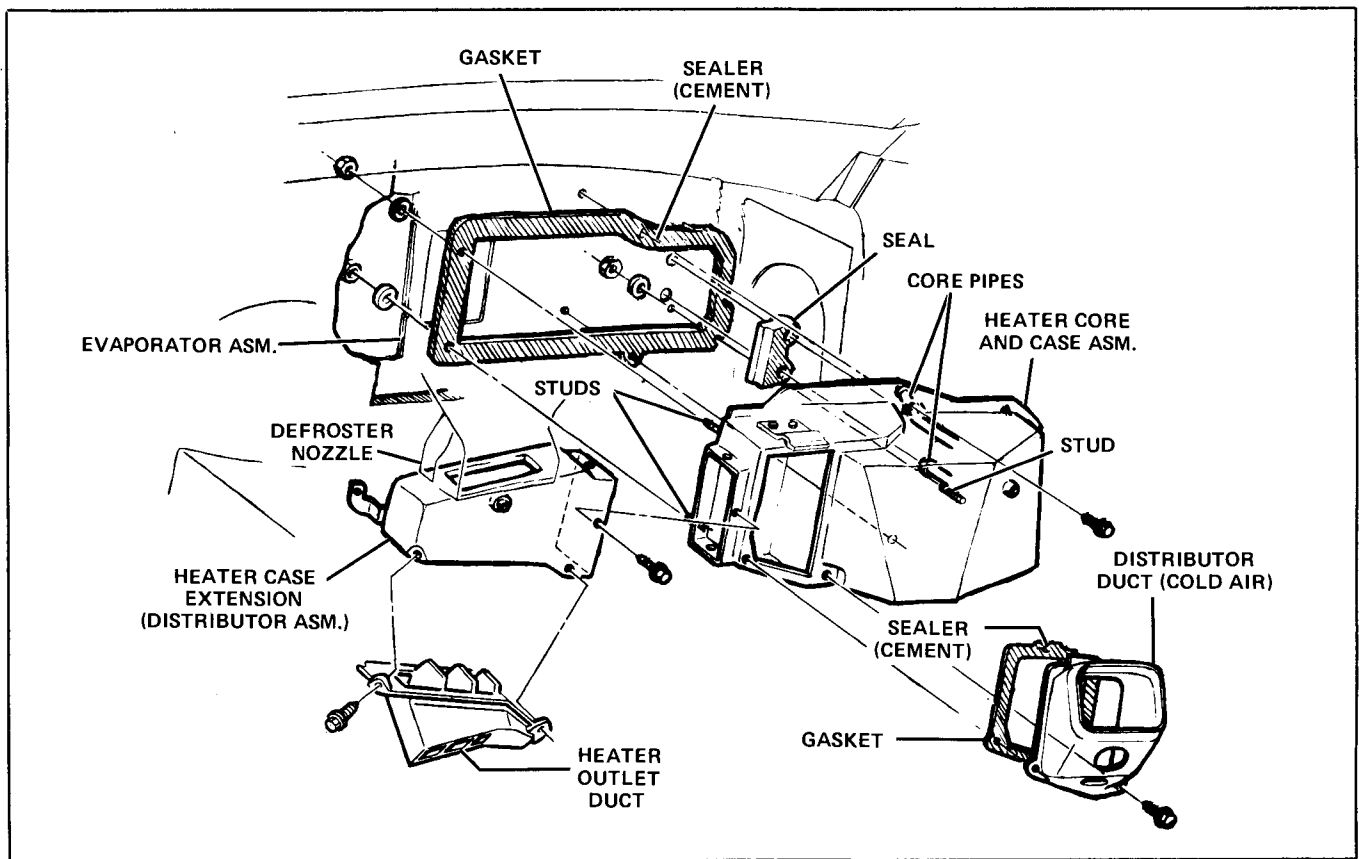

Fig. 1A-122 A/C Heater Core and Case Assembly - X Series
13. Remove (2) heater case retaining bolts inside car.
19. Remove heater core and case (Fig. 1A-121).